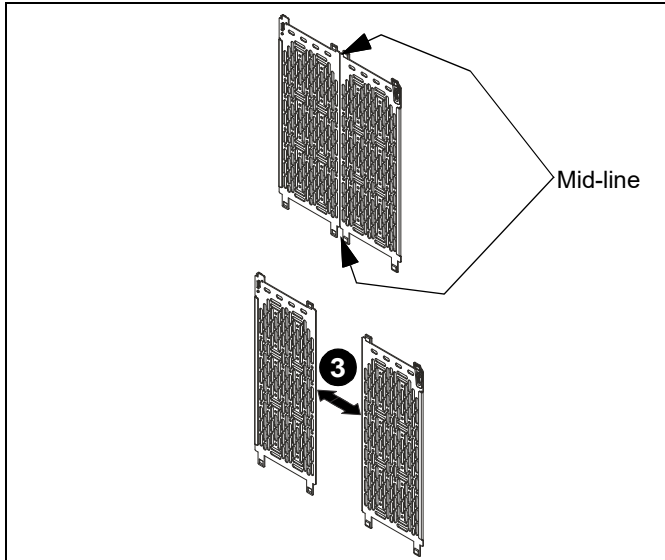

Figure 13
3. If desired, break the LeverLock™ backplanes (T) along the scored mid-line. (See Figure 13)